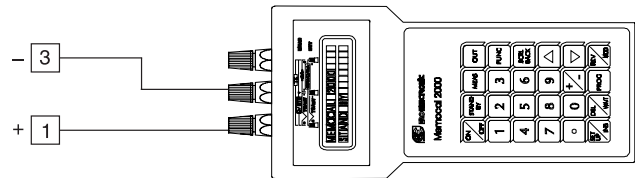

Fig.7
- Connect the instrument under test to the calibrator with a resistor, connected in series, having a value within 10 KΩ and 30 KΩ as shown in Fig. 7.